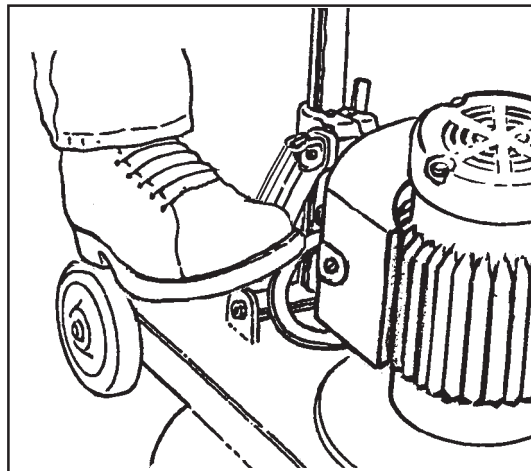

Figure 1
2. To lock the handle, push the locking lever down. See figure 1.